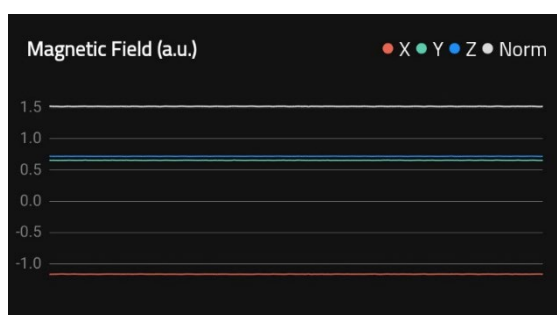

Figure 5 Norm deviation
- over $\pm 10\%$ deviation from magnetic norm=1, see Figure 5